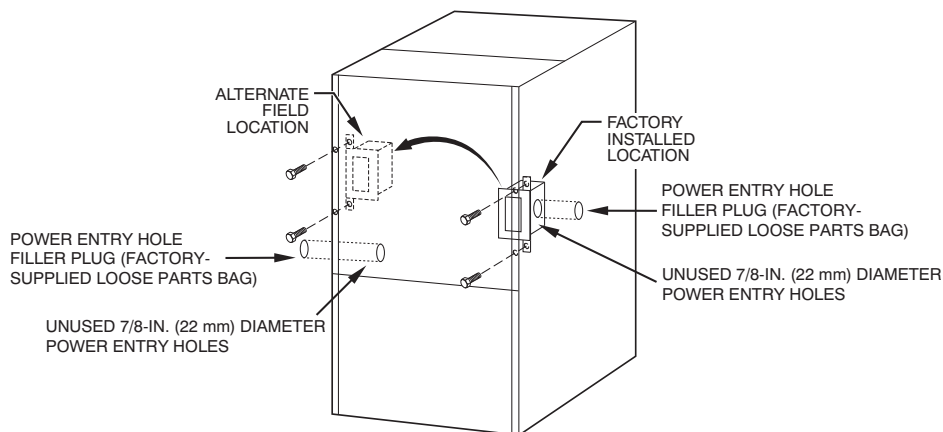

Fig. 22 - Relocating J-Box
1. Remove 2 screws holding auxiliary J-box. (See Fig. 22.)
3. Install power entry hole filler plugs (factory-supplied loose parts bag) in unused power entry holes. (See Fig. 22.)